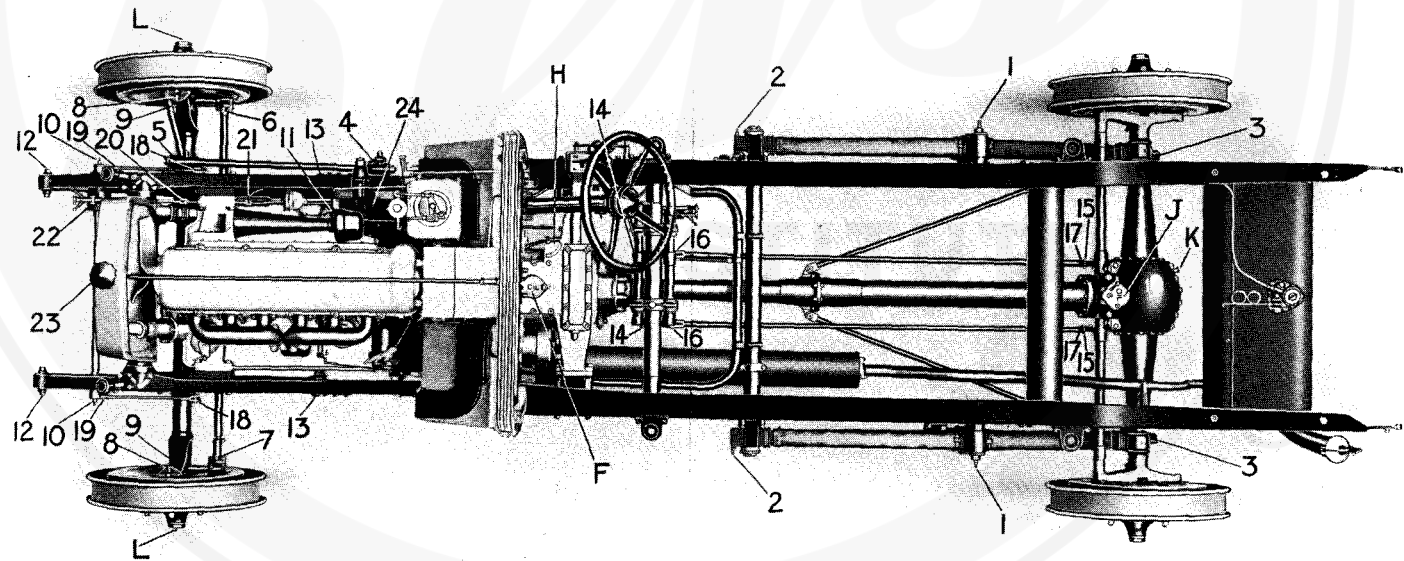

Fig. 24.
The Rear Axle Worm Gear Box contains  $\frac{1}{2}$ -gallon of oil, sufficient to run about 800 miles. The worm gear box is provided with a filler "J" Fig. 24, which is accessible by removing the rear seat cushion and seat board. An Oil Level Cock "K" is provided on the side of the worm gear box approximately opposite to the filler. When filling, the level cock should be opened and when oil commences to flow from the level cock cease filling, close the level cock and screw down the filler lid.
- Steering Link Joints. Fig. 24.
- Steering Column Base. Fig. 24.
Rear Brake Link Knuckles. Fig. 24.
Front Wheel Brake Link Knuckles. Fig. 24.
DESCRIPTION OF FIG. 24.